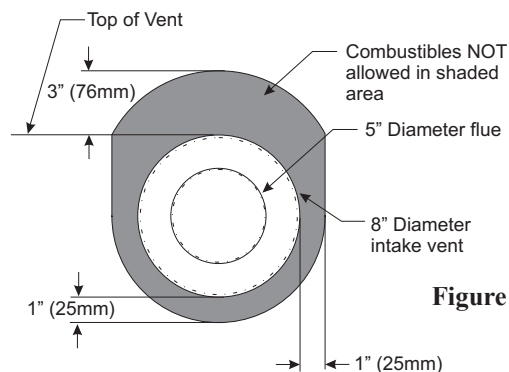

Figure 56
4. Install the Wall Firestop/Thimble assembly as required through the wall. Refer to the venting charts in the fireplace manual to determine the proper height and size of the vent opening. The minimum opening should be 10" wide by 12" high. The minimum combustible clearance from the horizontal vent is 1" from sides and bottom, and 3" above the vent pipe. **See Figure 56.**